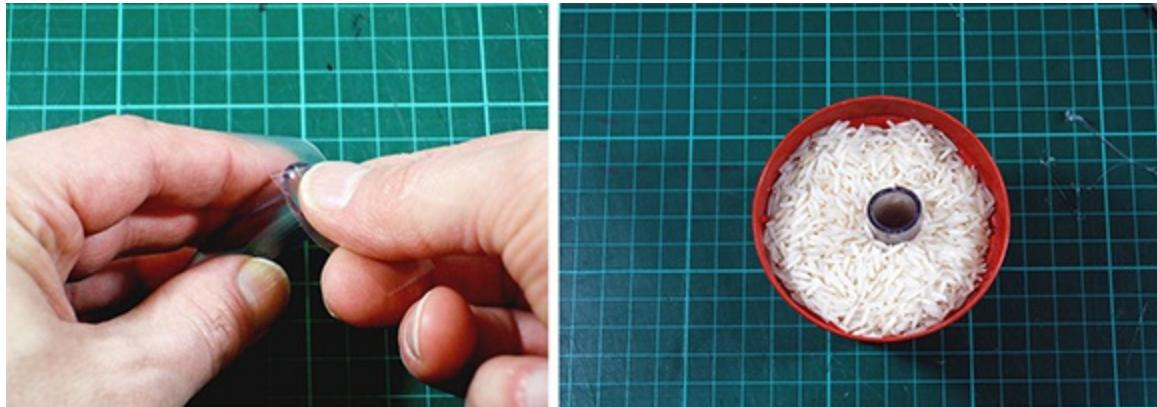

Figure 10-5: Applying tape to your mold.
- 4. Gently press the tube into the pot of rice, which holds it upright while the plaster sets, as shown in Figure 10-5.**